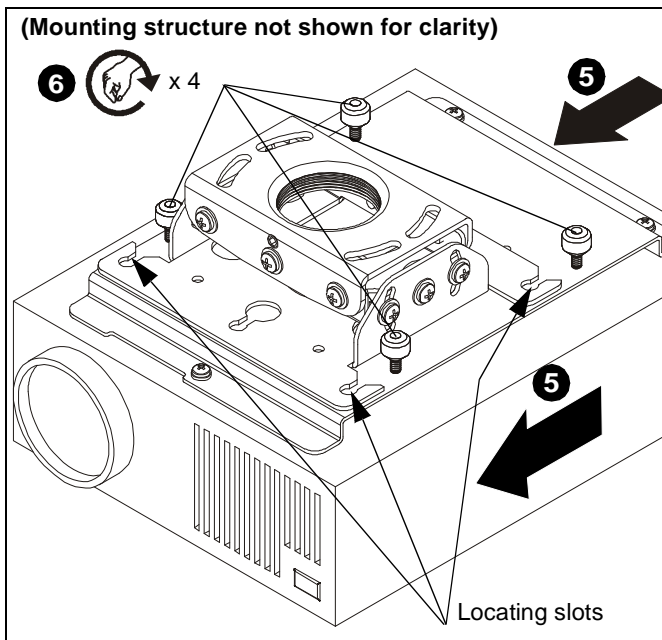

Figure 8
4. Align the thumb nuts on the interface bracket with the locating slots on the RPE projector mount. (See Figure 8)
5. Slide the interface bracket with attached projector to the limit of the locating slots. (See Figure 8)